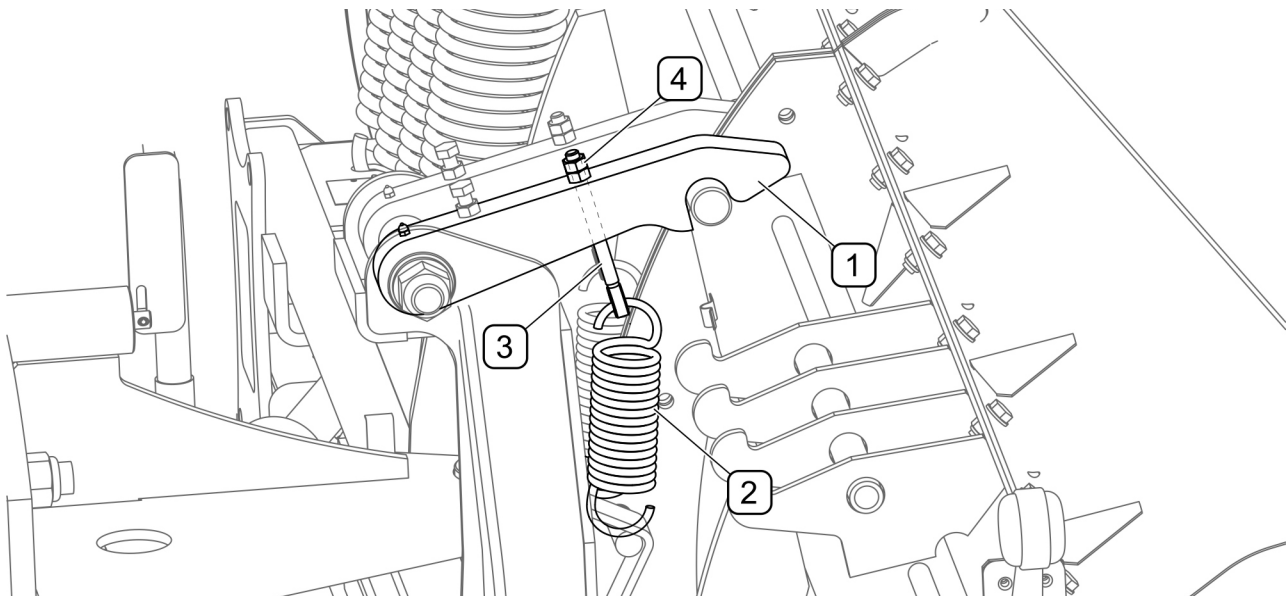

FIGURE 5.1 Latch spring tension adjustment
If latches (1) of the overload safety device (FIGURE 5.1) disengage too often, using tensioners (3) increase spring (2) tension. In the case of a reverse situation - reduce the springs tension. Spring tension adjustment is carried out separately for each latch.
Incorrect latch spring (2) tension latches can cause damage to the plough or carrying vehicle (FIGURE 5.1)